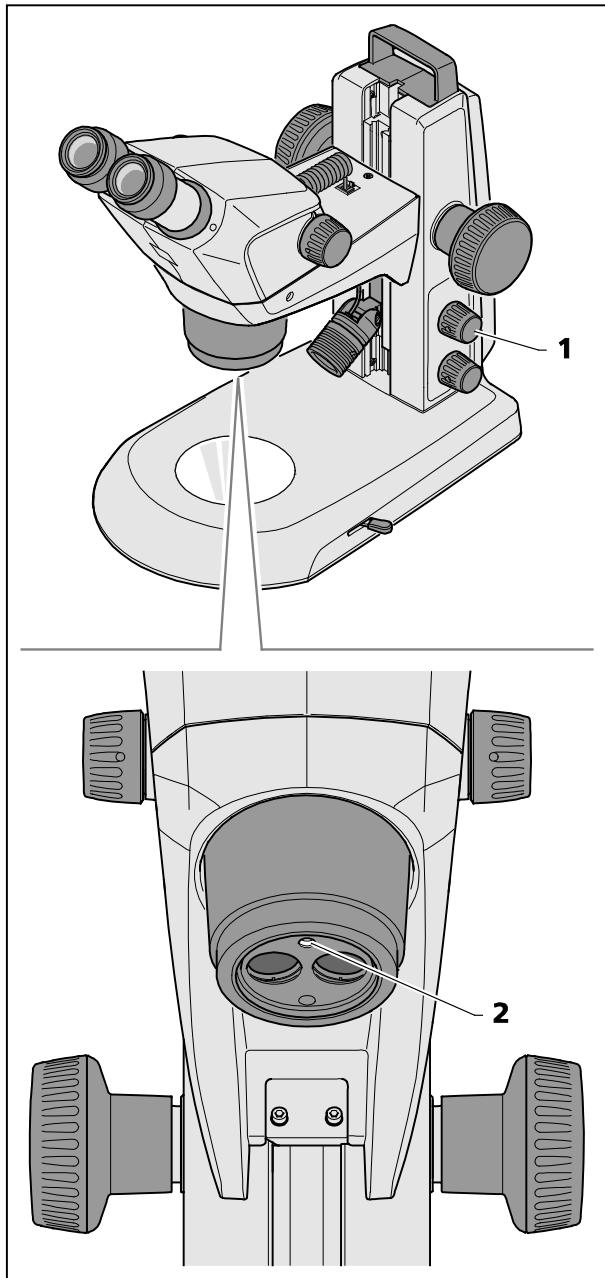

Fig. 20 Setting the vertical illuminator
- Press the knob (Fig. 20/1) once to switch the vertical illuminator (Fig. 20/2) alternately ON or OFF.